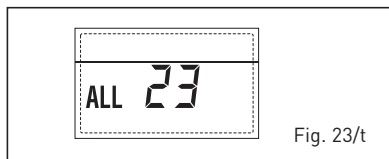

Fig. 23/t
- **SOLAR COLLECTOR SENSOR ERROR (S1) "ALL 24" (fig. 23/18)**